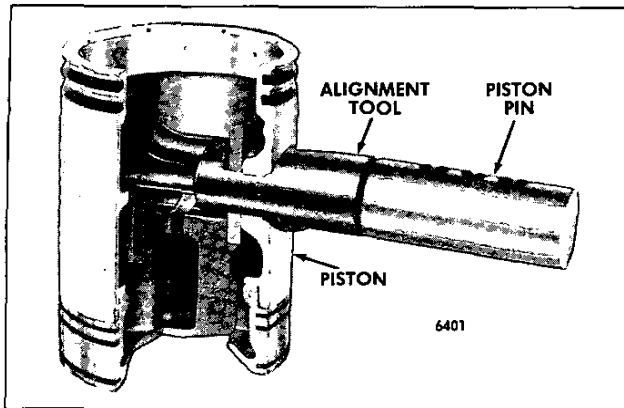

Fig. 14 - Installing Piston Pin Using Alignment Tool
5. Lubricate the piston pin with clean engine oil and install it (Fig. 14).